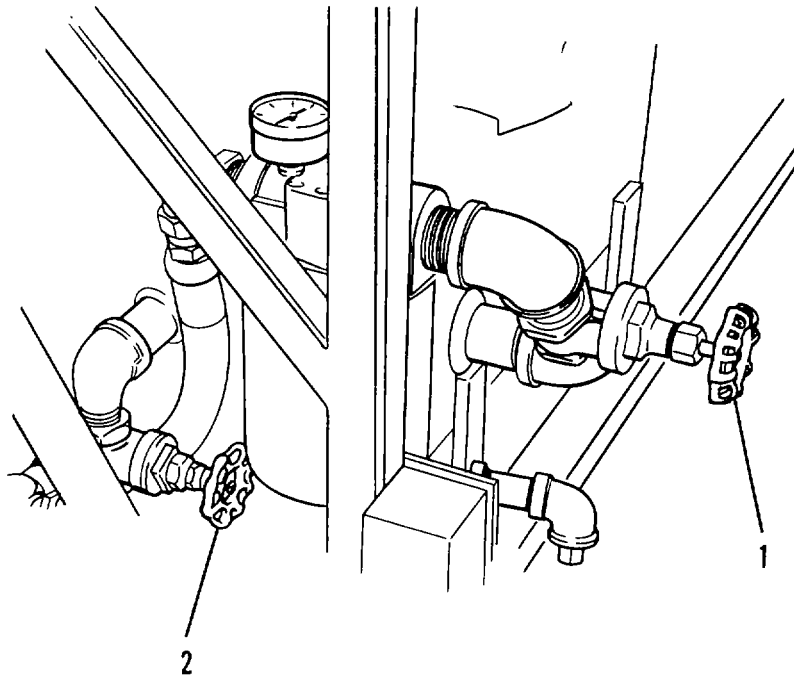

Figure 4-21.1. Hydraulic System Gate Valves.
- (10) Carefully position the manifold block (3) on the transmission (4).
- (11) Install capscrews (1) and washers (2).
- (12) Open suction gate valves (1 and 2, Figure 4-21.1) fully counterclockwise.
- (13) Start and run SPEMS. Check for oil leaks.
- (14) Check hydraulic reservoir level and refill if necessary.